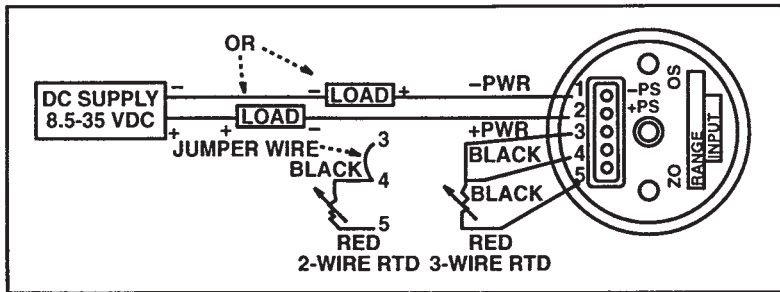

Figure 2-6 Wiring Diagram for the TX904
2.2 Wiring the TX904 (Refer to Figure 2-6)
(Refer to Figure 2-6).